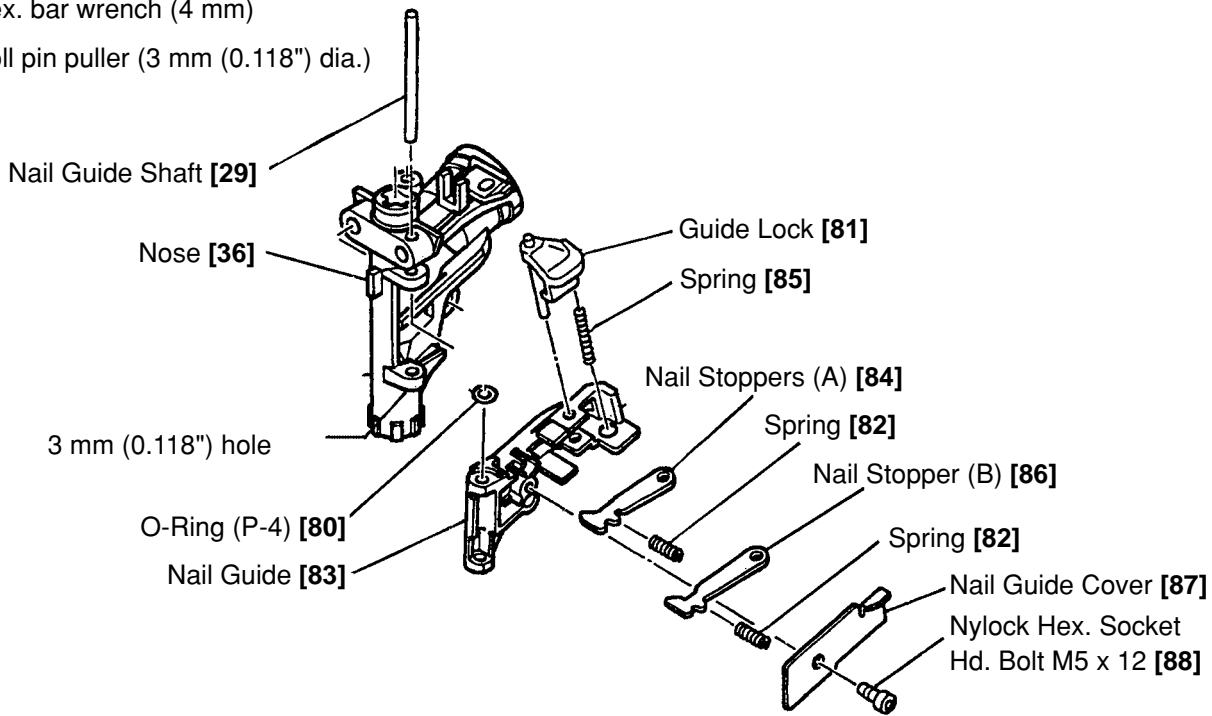

Fig. 23 Disassembly and reassembly of nail guide, nail stoppers (A) and (B), etc.
(4) Disassembly and reassembly of the Nail Guide [83], Nail Stoppers (A) [84] and (B) [86], etc. (See Fig. 23)